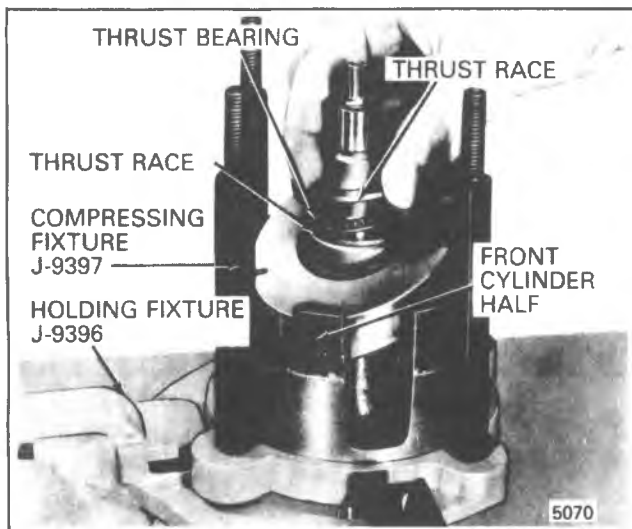

Figure 1D-41 Installing A-6 Rear Thrust Races and Bearings
7. Lubricate cavity of a **ZERO SHOE** disc with 525 viscosity refrigerant oil and place shoe disc **OVER BALL IN FRONT END** of piston (Figure 1D-42). **Front end of piston has an identifying notch in casting web** (Figure 1D-37).